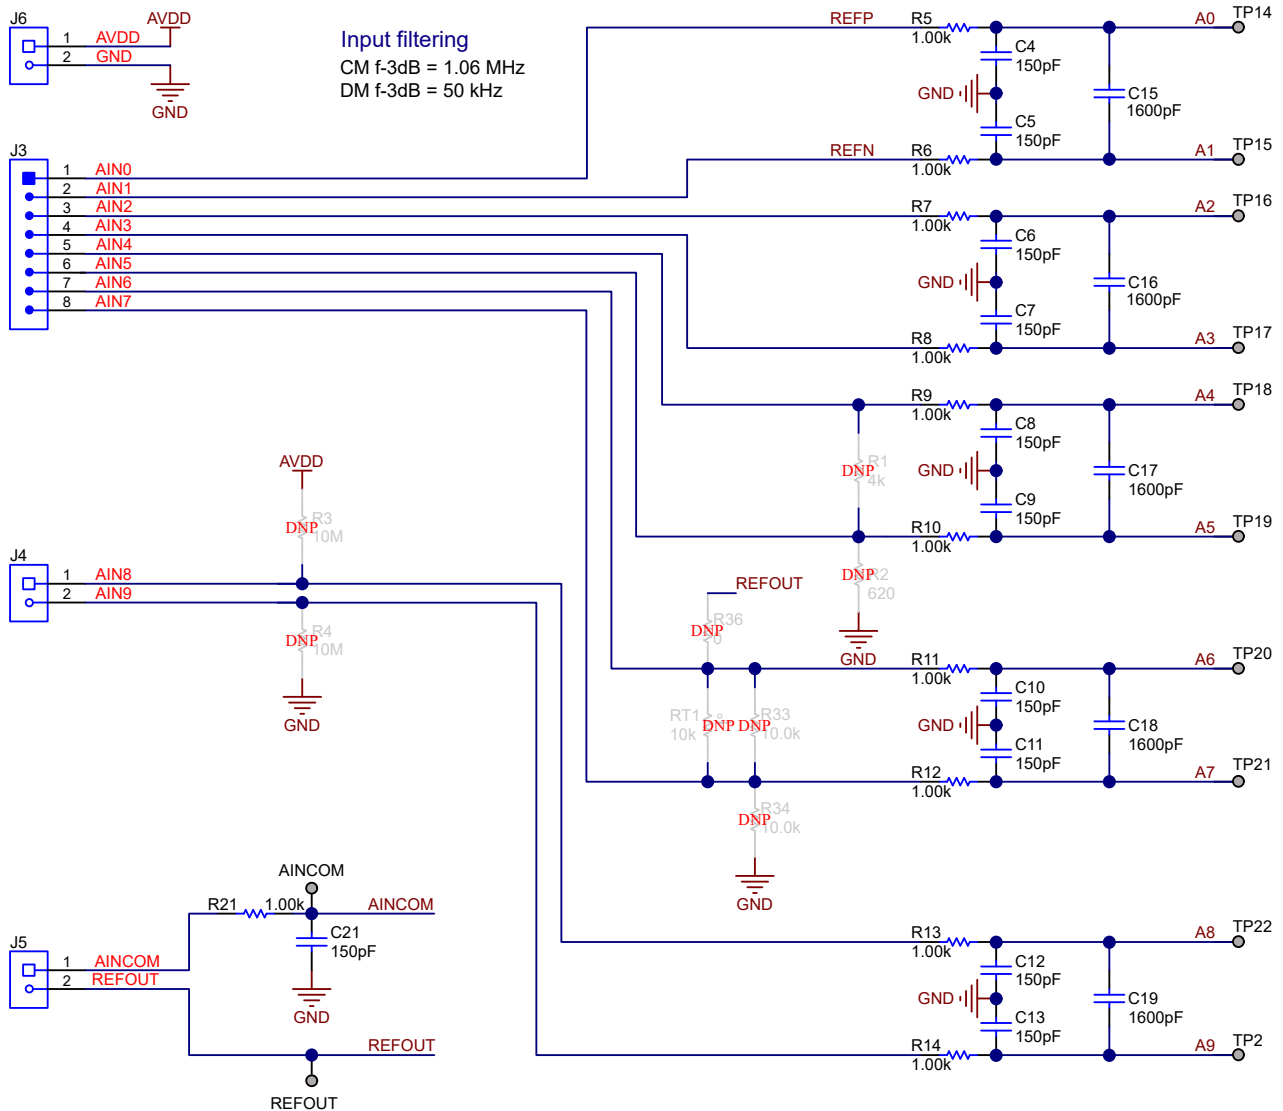

Figure 3-1. ADS1263EVM Analog Input Channels and Filtering
All ADC analog inputs are pinned out on the ADS1263EVM. The supporting circuitry provides filtering and ratiometric connections for a variety of sensors. Additionally, terminal block J4 can be used for thermocouple inputs (see Section 3.1.2.1). Terminal block J5 shows the connection and input filter for AINCOM. Figure 3-1 shows the schematic of the ADS1263EVM analog input circuitry.
3.1.2.2), and RTDs (see Section 3.1.2.4). Connect these sensors as well as other similar devices across terminals J3-J6 on the ADS1263EVM, as per Figure 3-1.
The ADS1263EVM provides the flexibility to measure multiple RTD types and configurations using differential pairs AIN0 and AIN1, AIN2 and AIN3, or AIN6 and AIN7 through terminal block J3. Each of these differential pairs has a differential filter with a cutoff frequency of 50 kHz. Additionally, each input has a common-mode filter with a cutoff frequency of 497.36 kHz. See Figure 3-1 for an overview of the ADS1263EVM analog input connections.